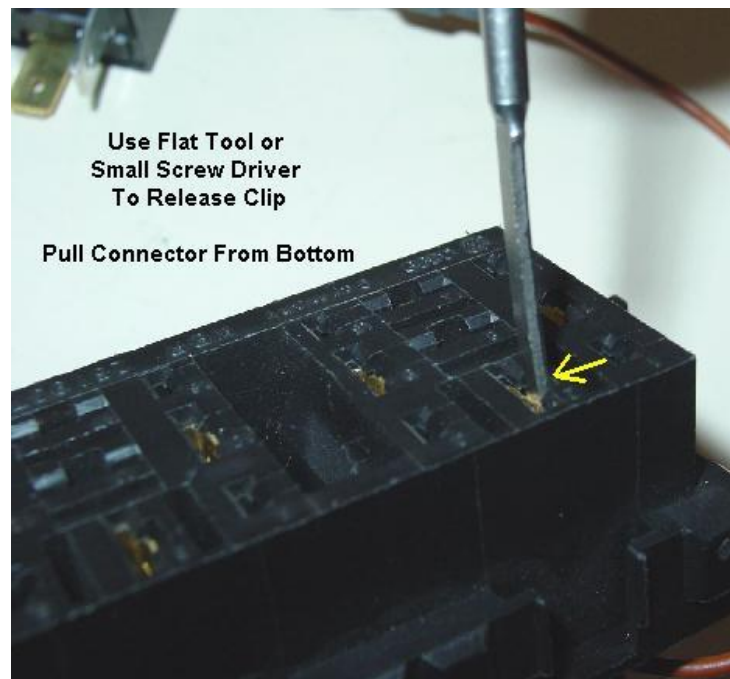

Fig. 3a Releasing the Connectors in the Relay Holder
3. To release the connector from the relay holders, insert a flat tool like a terminal release tool or a small screwdriver into the small slot next to the terminal. (See figure 3a) Push the tool towards the connector to release the clip while pulling the connector out from the bottom.